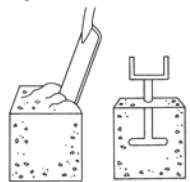

Fig 4 Setting the posts.
- Mix some concrete according to the manufacturer's instructions, allowing a generous amount to fill each post hole. Pour concrete into the hole and set a stirrup bracket in the centre of the concrete pad allowing approximately 75mm clearance between the ground and the bottom of the post (Fig 4).